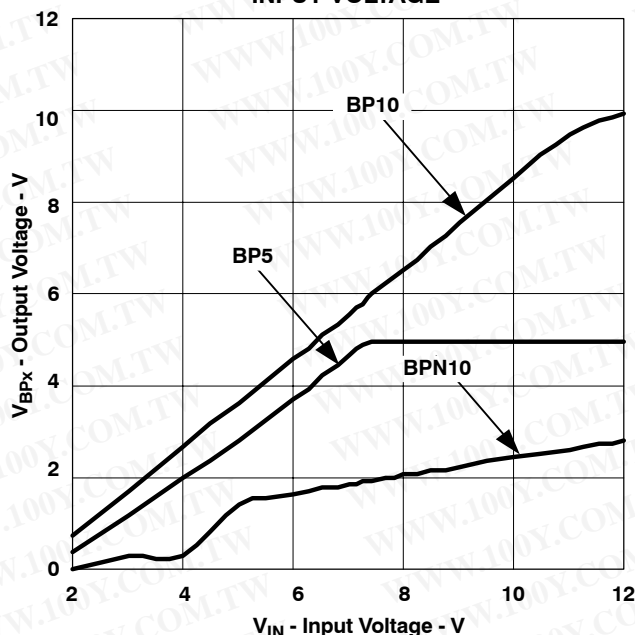

Figure 6.
The second tier consists of a fault counter. The fault counter is incremented on an overcurrent pulse and decremented on a clock cycle without an overcurrent pulse. When the counter reaches seven (7) a restart is issued and seven soft-start cycles are initiated. Both the upper and lower MOSFETs are turned off during this period. The counter is decremented on each soft-start cycle. When the counter is decremented to zero, the PWM is re-enabled. If the fault has been removed the output starts up normally. If the output is still present the counter counts seven overcurrent pulses and re-enters the second-tier fault mode. See Figure 6 for typical overcurrent protection waveforms.
Start-up characteristics of the BP5, BP10 and BPN10 regulators are shown in Figure 6. Slight variations in the BP5 occurs dependent upon the switching frequency. Variation in the BPN10 and BP10 regulation characteristics is also based on the load presented by switching the external MOSFETs.